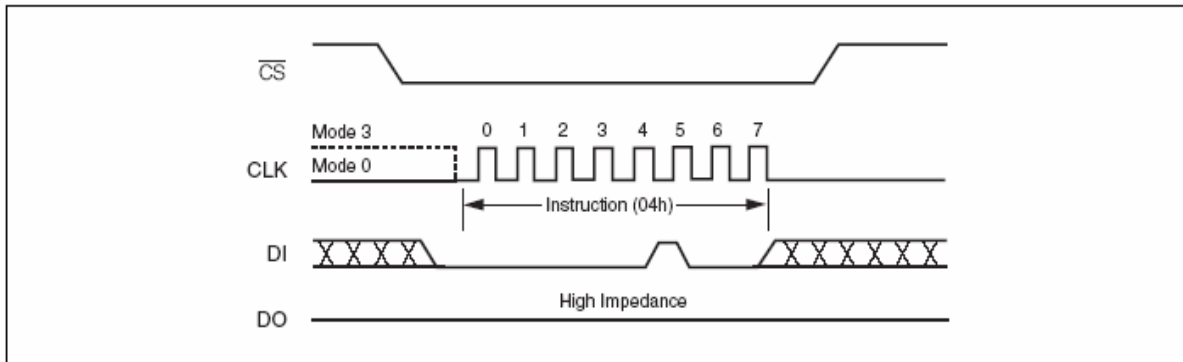

Figure 6. Write Disable Instruction Sequence Diagram
The Write Disable instruction (Figure 6) resets the Write Enable Latch (WEL) bit in the Status Register to a 0 or **exit from EXT / OTP mode to normal mode**. The Write Disable instruction is entered by driving Chip Select (CS#) low, shifting the instruction code "04h" into the DI pin and then driving Chip Select (CS#) high. Note that the WEL bit is automatically reset after Power-up and upon completion of the Write Status Register, Page Program, Sector Erase, Block Erase (BE) and Chip Erase instructions.